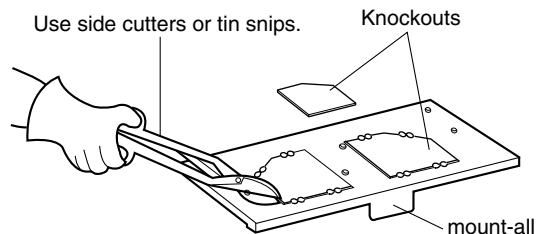

Figure 15
5. Use side cutters or tin snips to cut and remove knockouts from the mount-all. Be careful not to distort the plate. See figure 15.